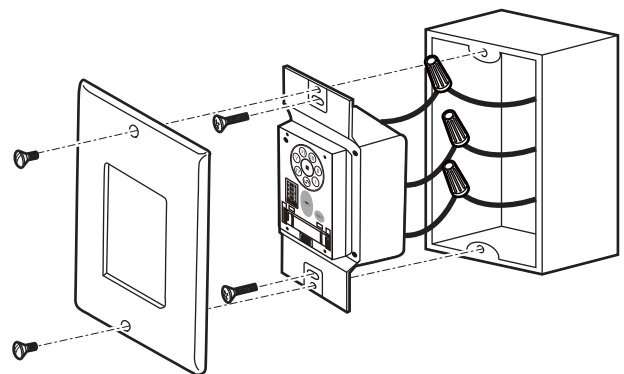

Figure 8
1. Connect the wall control supply (black) wire to the black household supply wire as shown in Figure 8.
2. Connect the wall control (black) wire to the white neutral household wire. (Fig. 8)
1. Carefully tuck the wire connections inside the junction box. Secure the wall control with the two wall switch screws provided. (Fig. 8)